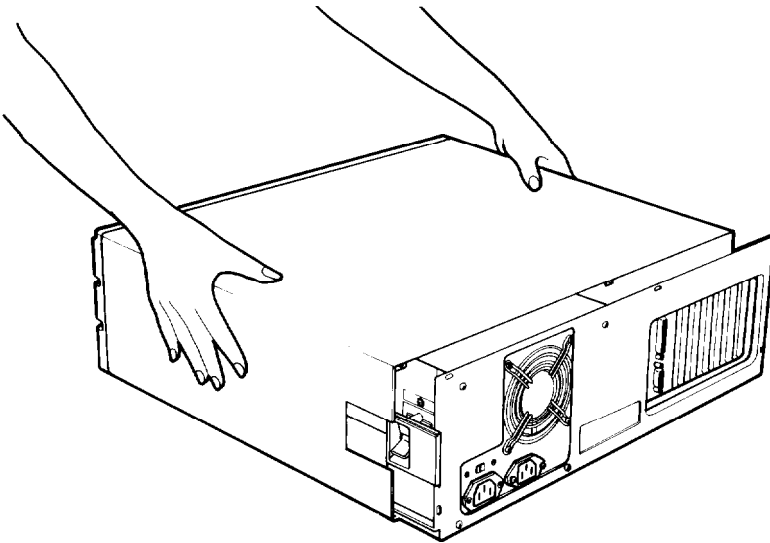

Figure 4-2. Sliding back the cover
4. Turn the main unit around so the front panel faces you. Hold on to the two sides of the cover and carefully pull it straight toward you, away from the back of the computer, as shown in Figure 4-2, until it is about an inch past the power switch. The cover fits tightly, so if you have trouble moving it at first, keep pulling it back firmly.